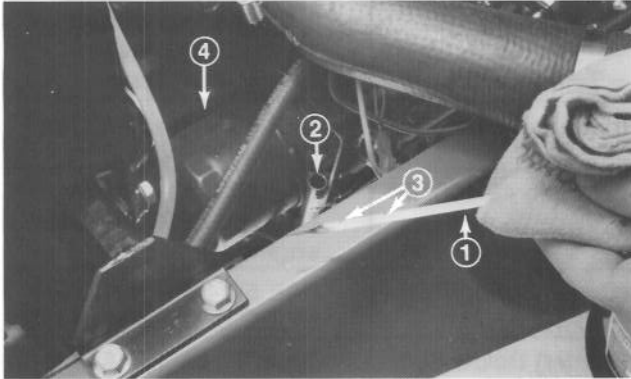
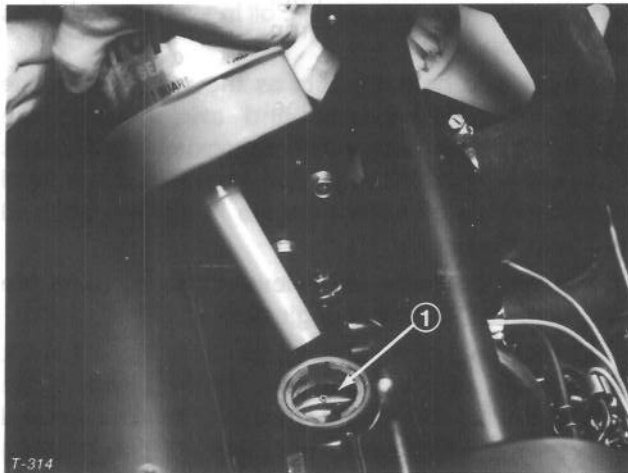

Figure 20
Figure 21
3. Remove dipstick and wipe it with a clean rag (Fig. 20). Push dipstick down into the tube and ensure it is fully seated. Pull dipstick out of the tube and check level of oil. If oil level is low, remove filler cap (Fig. 21) and add enough oil to raise level to top notch on dipstick (Fig. 20). **DO NOT OVERFILL.**
2. Unscrew dipstick cap (Fig. 20) from the filler neck and wipe it with a clean rag. Screw dipstick cap fingertight onto filler neck. Unscrew the dipstick and check level of oil. If level is not within 1/2 inch (13 mm) from the groove in the dipstick (Fig. 20), add enough oil to raise level to groove mark. **DO NOT OVERFILL** by more than 1/2 inch (13 mm) above groove.